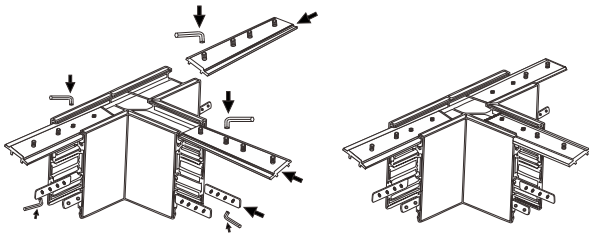

Figure6.1
1. Splice the three straight lines to fix the metal plate and the connecting fixed bolt, and fix them on the T-shaped adapter; (Figure 6.1)